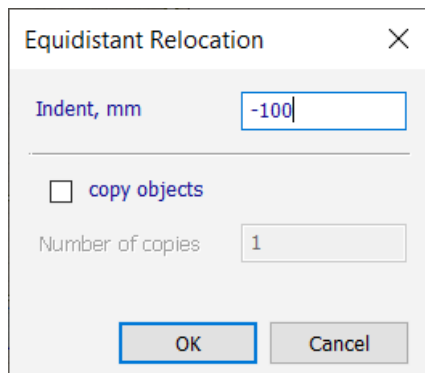

Figure 23.23. **Equidistant relocation** dialog box
- ⇒ In the **Equidistant relocation** dialog box (see Fig. 23.23), define the indent value – **-100mm**.